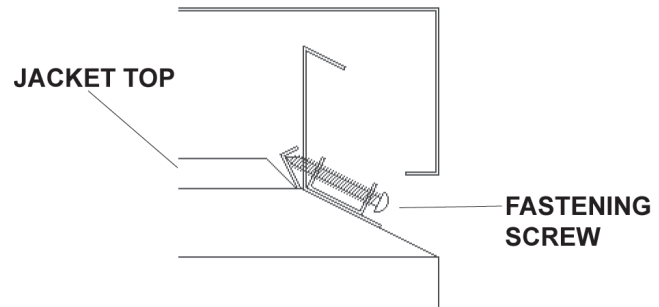

Figure 12. Outdoor Top Installation for Models 0514-0824
2. Tighten the (4) screws until they come in contact with the unit jacket top, then evenly tighten all (4) screws to secure to unit. See **Figure 12**.